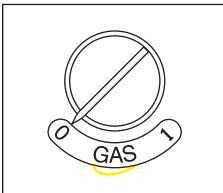

Figure 8
6. To shut the gun off, turn the On/Off Valve to the '0' (Off) position (Figure 8).